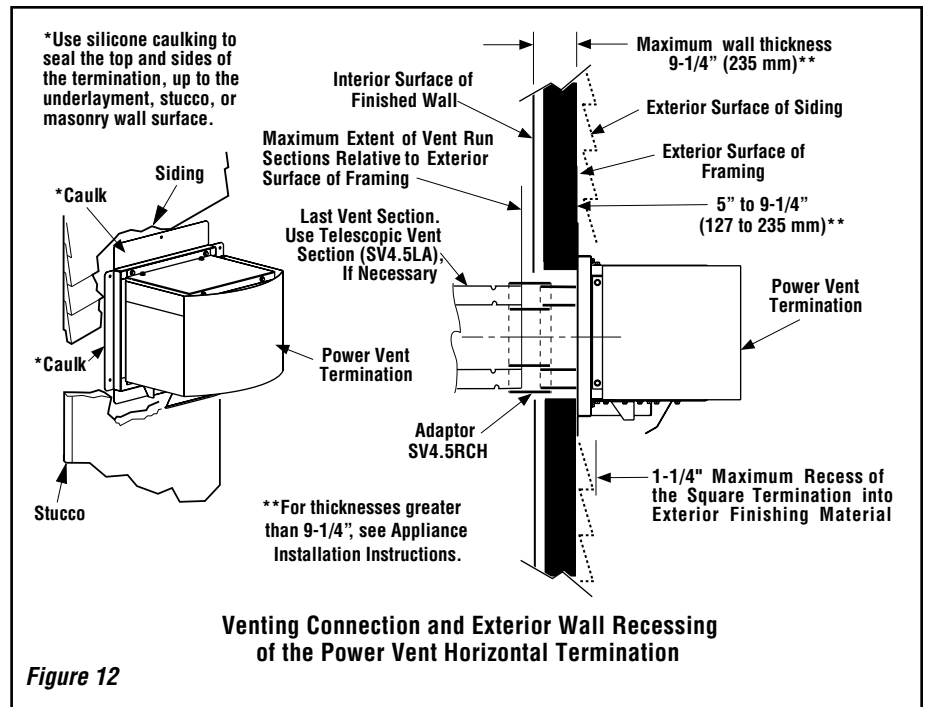

Figure 12
- Assemble the vent system to the point where the end of the last section is within 8" of the outside wall surface where the **power vent termination** is to be mounted (*Figure 12*).
NOTE: For wall thicknesses greater than shown in *Figure 12*, refer to the fireplace *Installation Instructions* for other venting components that may be required (in addition to the **power vent termination** [#11] and **termination adaptor** (SV4.5RCH) [#12]).
NOTE: Do not recess the termination into the exterior wall or siding by more than 1-1/4" (32 mm), as shown in *Figure 12*.